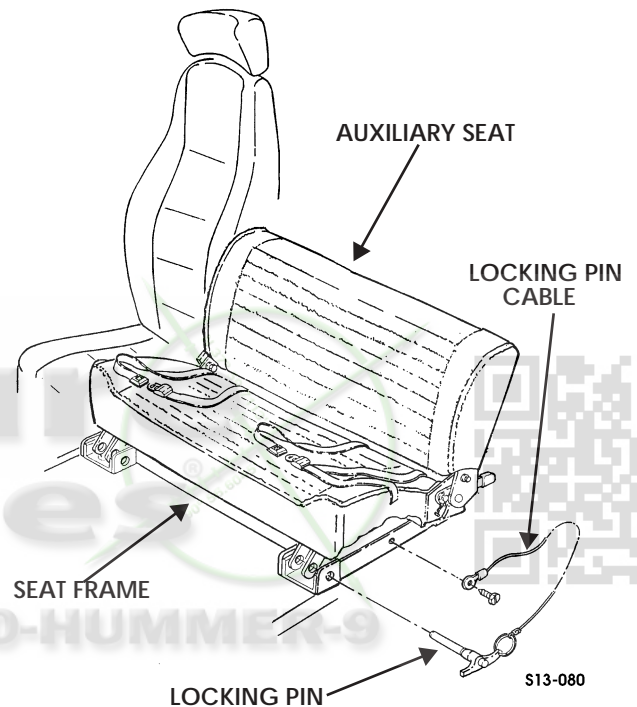

Figure 13-105: Auxiliary Seat Locking Pin
1. Remove two screws and locking pin cables from auxiliary seat frame (Figure 13-105).
1. Install and fasten two locking pins on auxiliary seat frame and auxiliary seat (Figure 13-105).